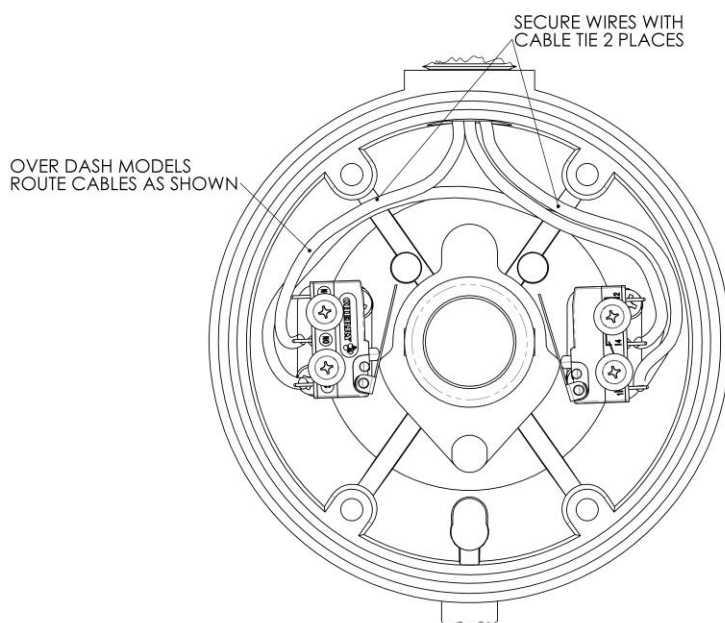
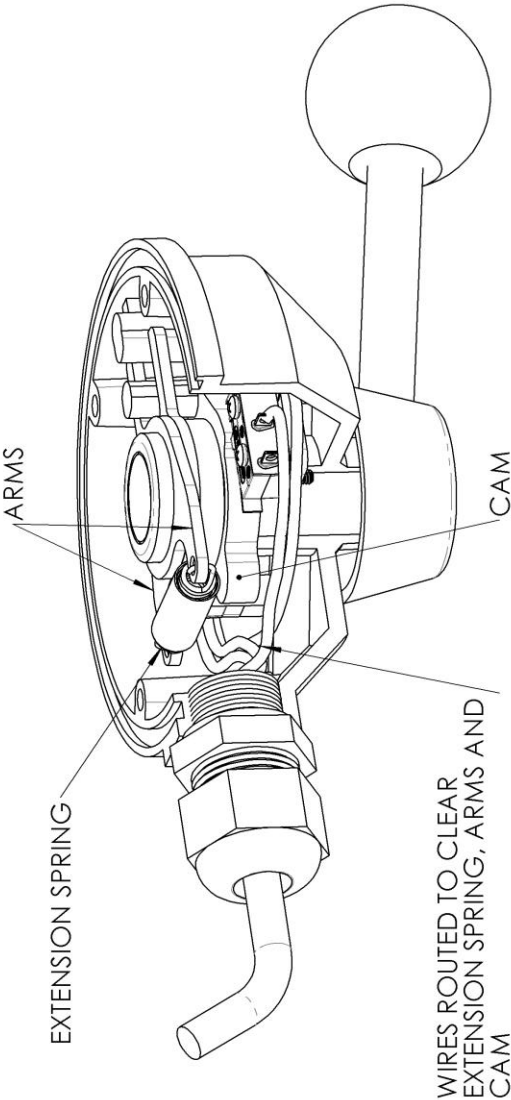

Figure 13: Microswitch wire routing, 7170-A1 shown.
Figure 14: Wire routing showing particular parts to ensure adequate clearance, 7170-A1 shown.
- a. The actuation lever of microswitch ② is clear of any obstructions through its range of motion.
- b. The microswitch ② lever is depressed enough to actuate the switch contacts when the jog lever is pushed.
This can be done by checking for continuity across the Normally Open(N.O) terminal 4 and the Common(C) terminal 1. See Figure 13 for clarity on terminals being checked. When the switch is depressed, terminal 1 and 4 should have continuity.
- c. The microswitch ② lever is not over actuated:
For over dash jogs(7170-X1) refer to the routing shown in Figure 13 and Figure 14.
Ensure that wires are clear of moving parts such as the cam, spring arms and spring as identified in Figure 14.
14. Use X2 plastic cable ties to secure the routed wires together in the positions indicated in Figure 13.